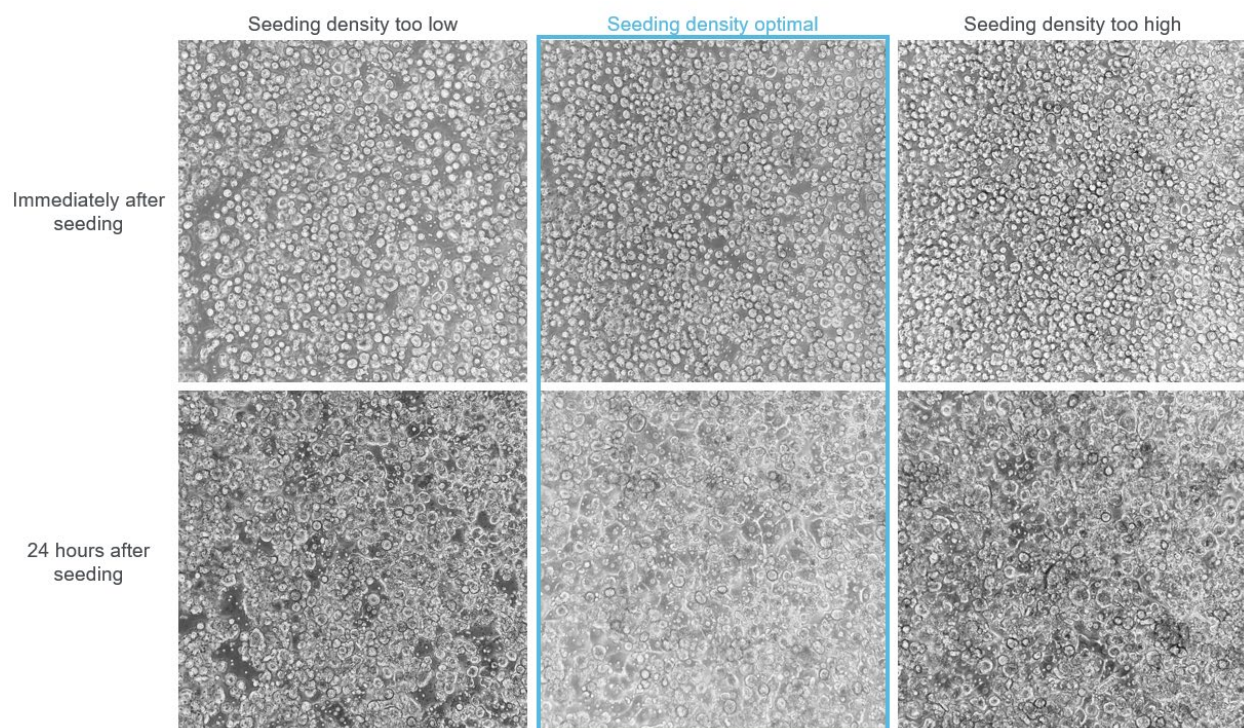

Figure 13. Hepatocyte seeding density reference chart
6. Cover the Chip-Array with the pipette guide cover and visually inspect the seeded Emulation under a lab microscope to check if the density and distribution look appropriate (see Figure 13 below). Hepatocytes should not be overcrowded and should have an even layer with ~one cell radius between individual hepatocytes. Troubleshoot by readjusting density if not.